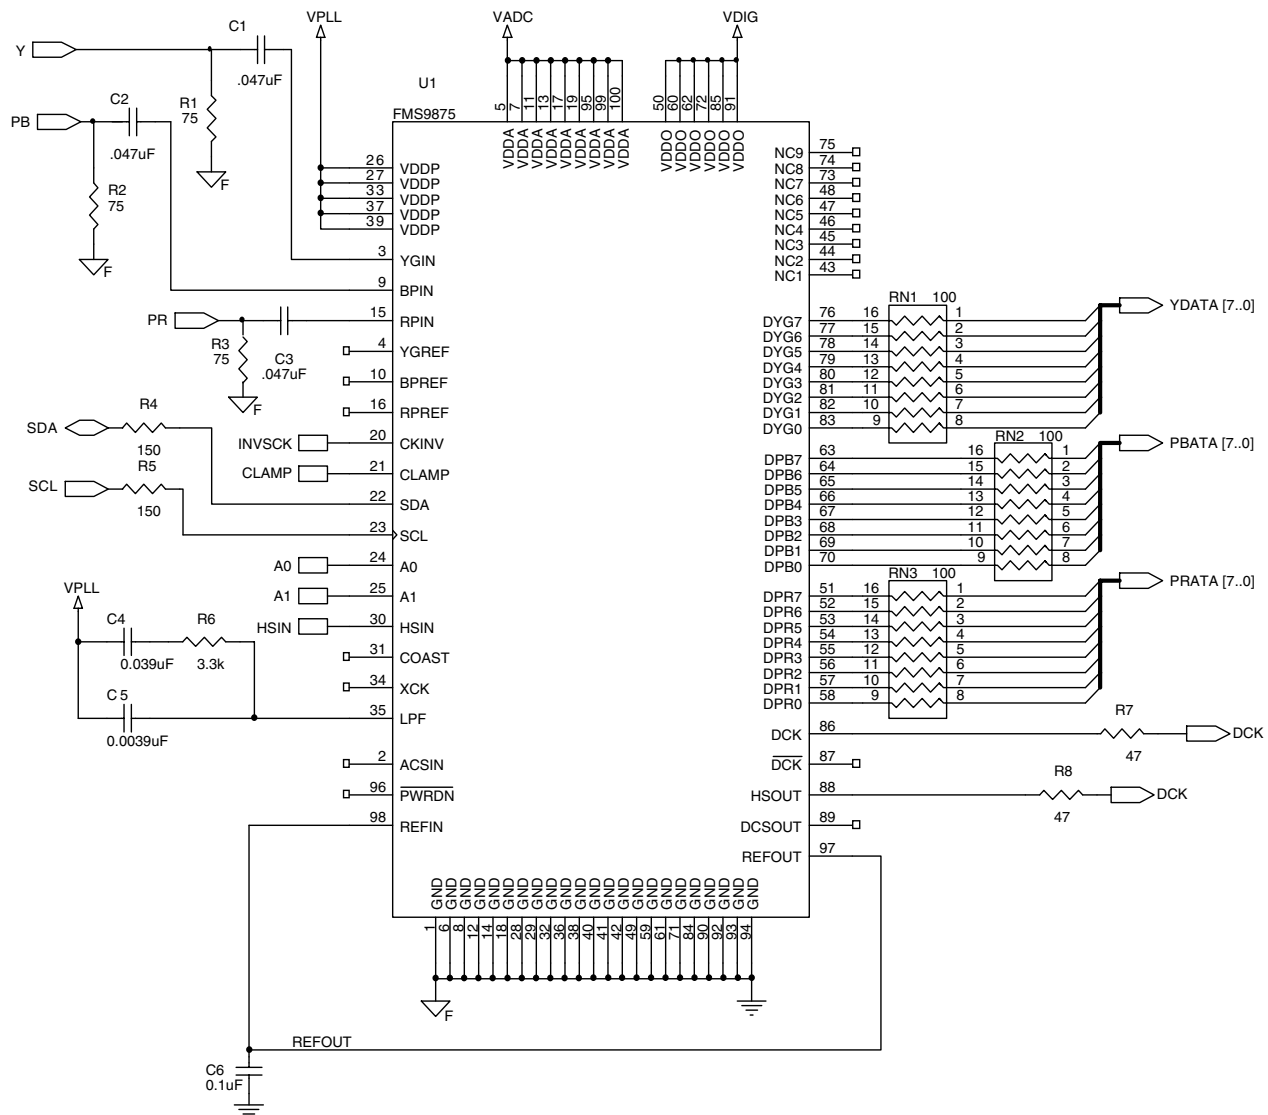

Figure 24. Schematic, VGA Digitizer, AC Coupled RGB
Shown in Figure 24 is an implementation of a video digitizer with AC coupled YP_BP_R inputs. Horizontal sync input.
3. Each V_{DDP}/GND pin pair: 26&27/28, 33/32, 37/38, and 39/40 should be decoupled with either a 0.01 or 0.1 μF capacitor (see Figure 24).